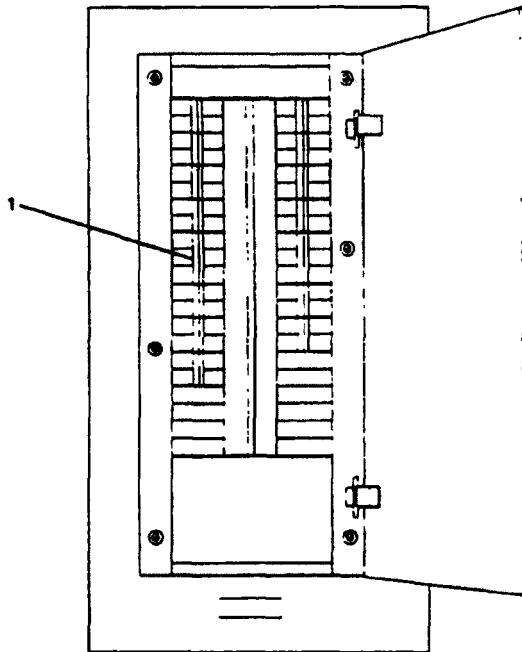

Figure 2-206. 01 Level Distribution Panel No. 2.
(1) 01 level distribution panel no. 2 (Figure 2-206). Set FUSE BOX NO. 2 01-02 LVL CONVHTR circuit breaker (1) to ON position.